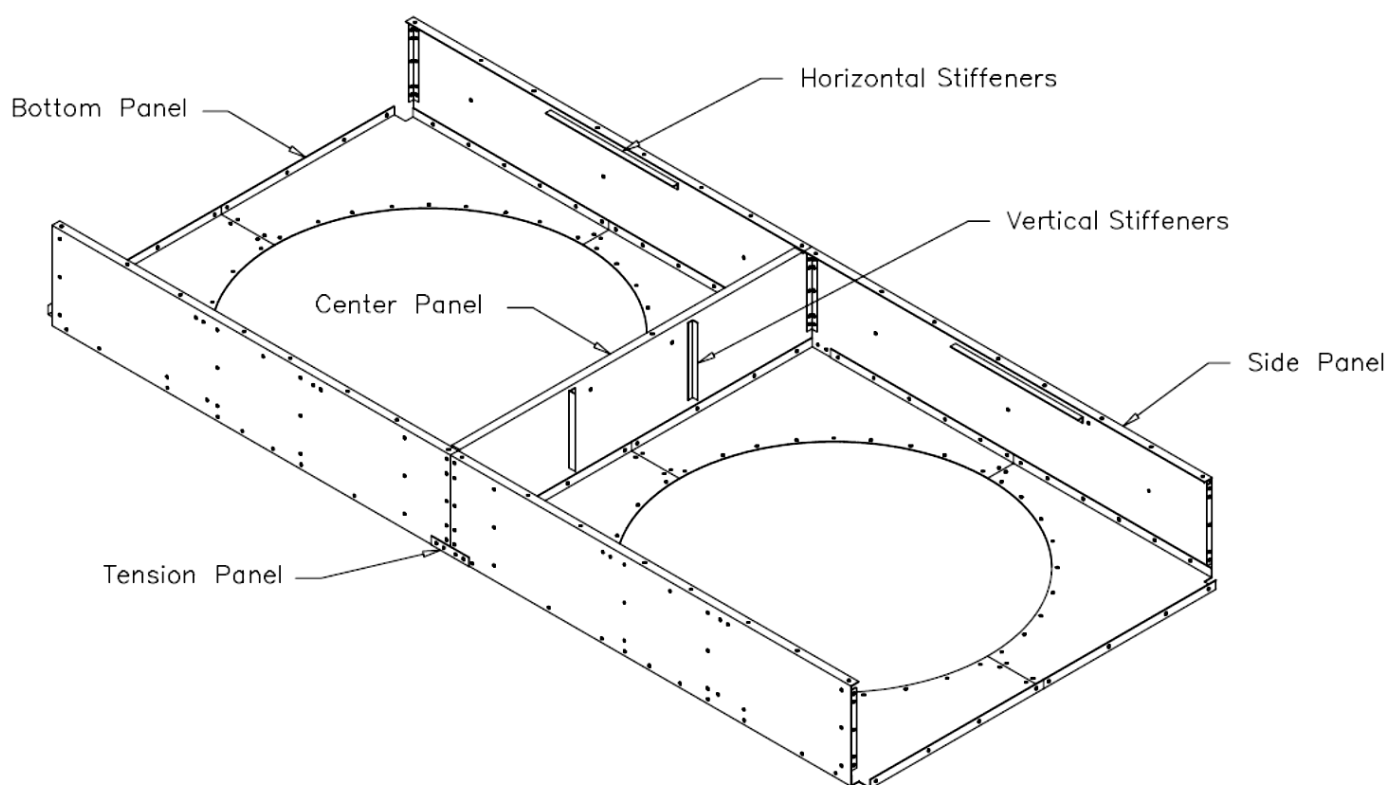

FIG.B1 – BOTTOM, CENTER, AND SIDE PANELS
1. Set all bottom panels on a level surface. Install vertical stiffeners, panel supports, and horizontal stiffeners, if required, to side, end, and center panels. Attach side panels, center panels, and tension angles, if required, to bottom panels. Tighten all bolts. See Fig. B1.